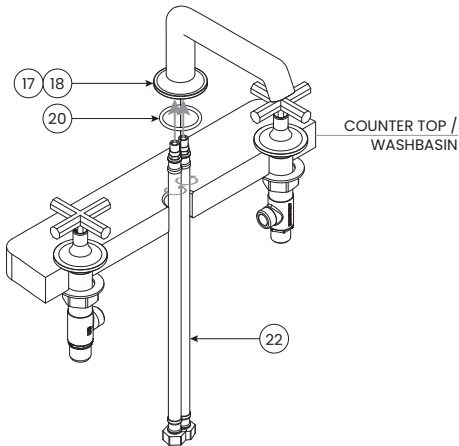

FIGURE 6.1
- 6.1 Insert the Spout O-ring (20) underneath the base of the Spout (17 or 18) (Figure 6.1).
- 6.2 According to Figure 6.1, screw and tighten the male end of the Flexible Hoses (22) into the corresponding threaded holes in the base of the Spout (17 or 18).